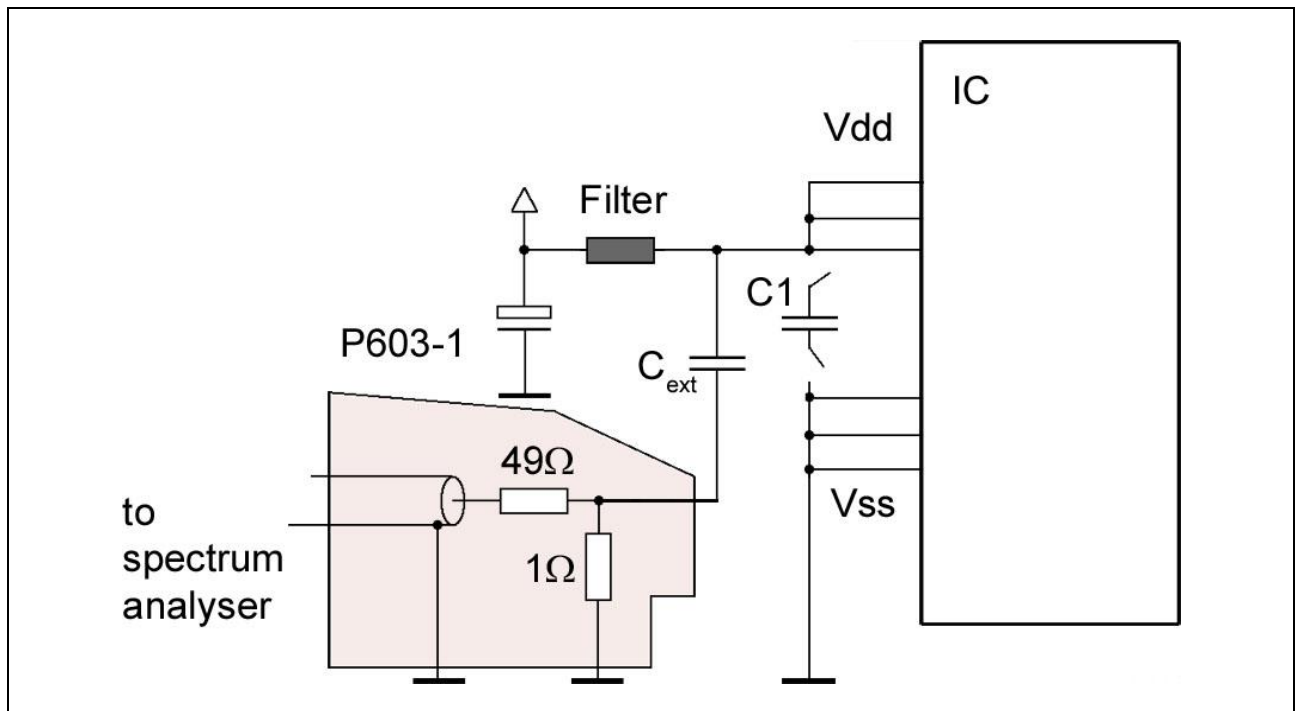

Figure 2 P603-1, current measurement with a direct current block (C_{ext}) on concatenated Vdd pins.
1. Current measurement (**P603-1**) on concatenated Vdd pins (with external capacity), **Figure 2**